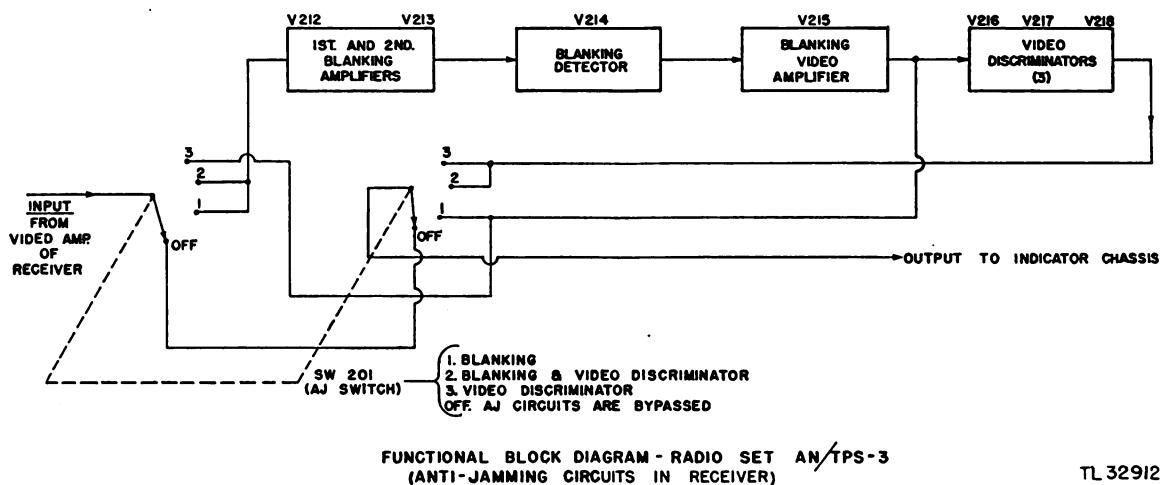

Figure 25. AJ block diagram.
*a. General Description.* The receiver contains i-f and video circuits which are designed to minimize the effects of strong signals which would otherwise overload the receiver and prevent the reception of desired signals. The circuits are shown in block form in figure 25.
*b. A-J Circuits.* There are two separate a-j circuits: the blanking circuit and the video discriminator as shown in the block diagram, figure 25. The AJ switch SW201 is used to select the proper circuit. When the AJ switch is in the OFF position, the a-j circuits are bypassed completely. Under these circumstances, the signal passes directly from the i-f video amplifier in the receiver unit to the video amplifier stage in the indicator unit. In the #1 position, the blanking circuit is used. The purpose of the blanking circuit is to blank or remove a strong pulse-type jamming signal, but allow a desired target signal to come through. In the #3 position, the video discriminator circuit is used. The purpose of the video discriminator circuit is to remove a continuous-wave jamming signal (with or without low frequency modulation). In the #2 position, both the blanking circuit and the video discriminator circuit are used.
**(2) VIDEO DISCRIMINATOR CIRCUIT.** As shown in the block diagram, figure 25, the discriminator circuit consists of three video amplifier stages which are designed to reject the lower video frequencies present in some types of jamming signals. This is accomplished by using short-time, constant, r-c circuits in the coupling elements. These r-c circuits do not interfere with the normal echo, which is only 1.5 microseconds wide, but prevent jamming signals of longer duration from getting through to the indicator.